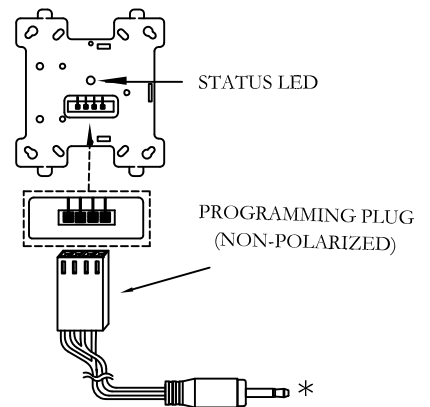

FIGURE 1A
- 3) The address must be set on the FFO-MM4 before the cover plate is attached (see Fig. 1A).